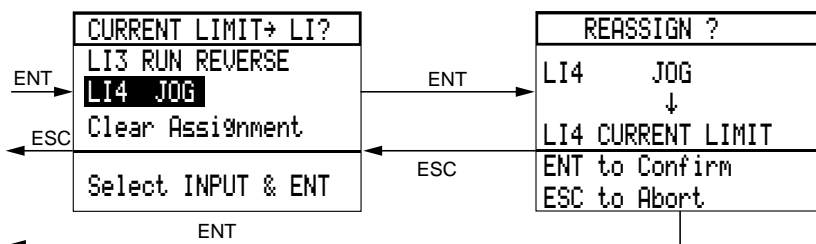

Figure 23: Reassigning Logic Inputs
- **Logic Input:** assign a logic input to Current Limit (see Figure 23 for procedure). When the assigned logic input is low (state 0), the Current Limit value is the default setting. When it is high (state 1), the Current Limit is the reduced value.